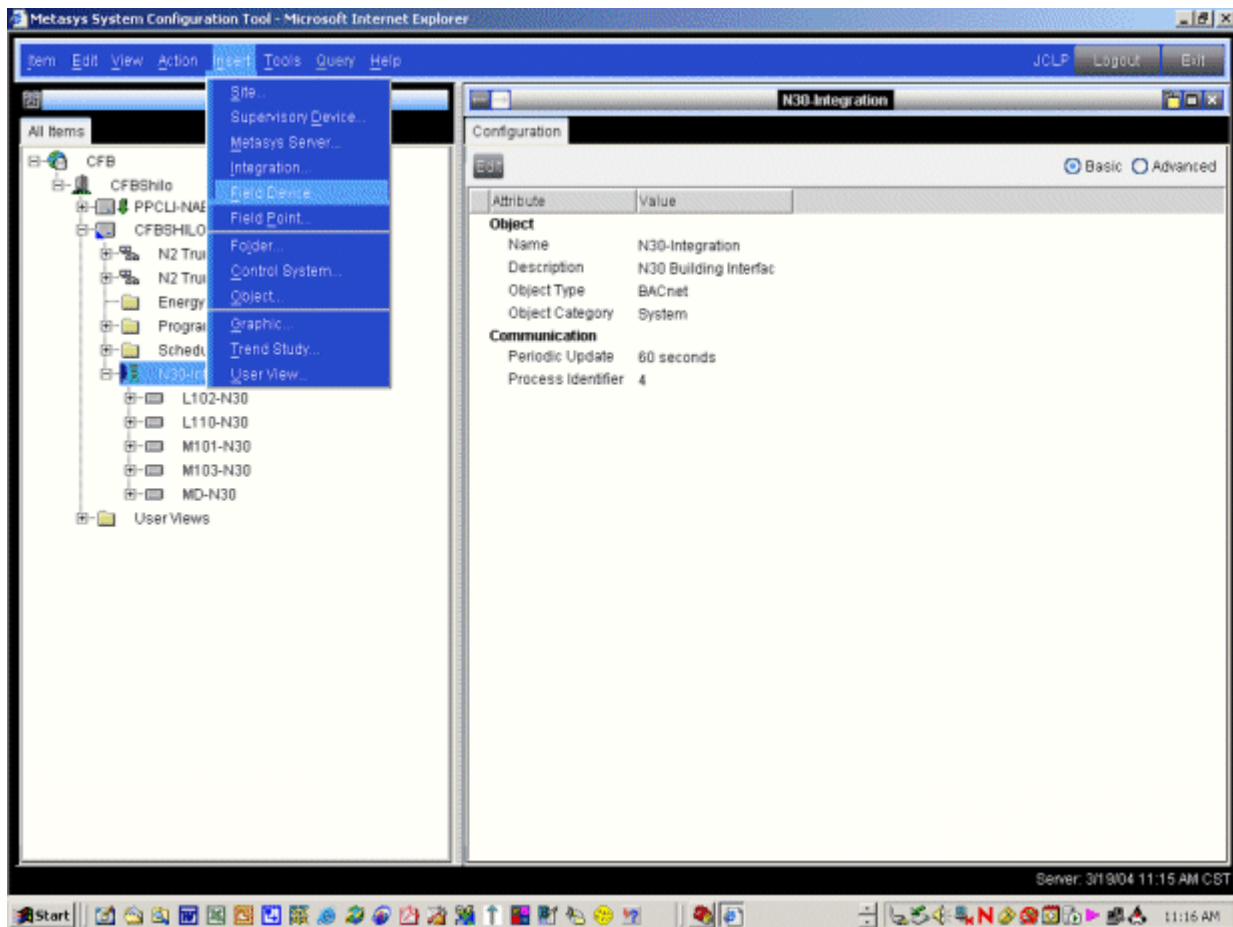

Figure 14: Insert Field Device
1. Highlight the BACnet Integration Object and select Insert > Field Devices (Figure 14).